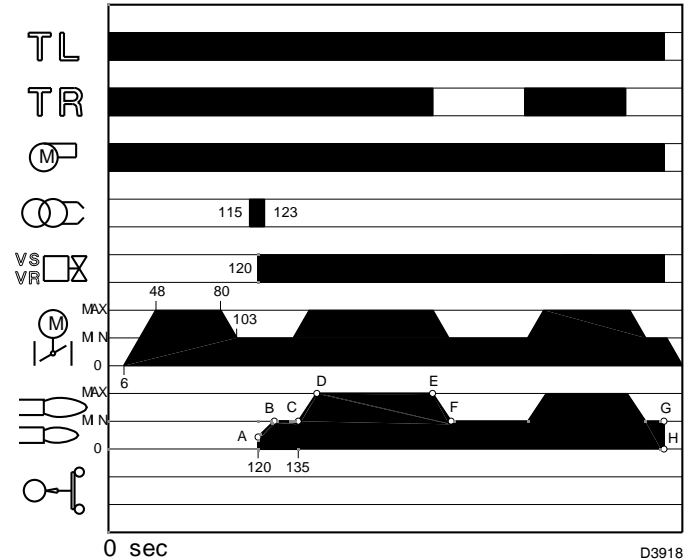

Fig. 42
- 0s:** TL closes. Fan motor starts (Fig. 42)
- 119s:** Safety valve VS and adjustment valve VR (rapid opening) open. The flame is ignited at a low output level, point A (Fig. 42). Output is then progressively increased, with the valve VR opening slowly up to MIN. output, point B (Fig. 42).
Once the starting cycle has come to an end, control of the servomotor passes on to the TR that controls boiler temperature or pressure, point C (Fig. 42).
- If the temperature or pressure is low (and the TR load control is consequently closed), the burner progressively increases its output to the MAX. value, section C-D (Fig. 42).
- If subsequently the temperature or pressure increases until TR opens, the burner progressively decreases its output to the MIN. value (section E-F) (Fig. 42).
- The burner locks out when the demand for heat is less than the heat supplied by the burner in min. output, section G-H (Fig. 42).